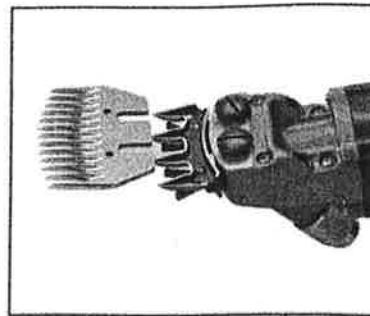
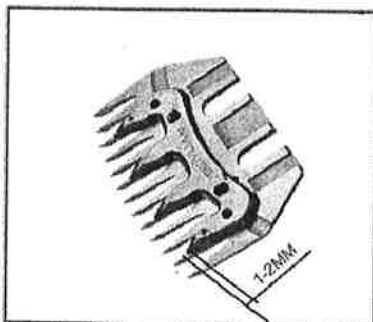

Fig. 2 (Positions of Knife Section and Shim)
Fig. 5 Distance between Upper Blade and Lower Blade
- 1.1 Positions of blade (See Fig.2). Adjust positions of blades, and make sure there is a 1.5-2MM distance between the tip of the knife section and the tip of skim at the planimetric position (see Fig. 5) so that grease or dirt existing on the sheep will not affect the movement of blades.